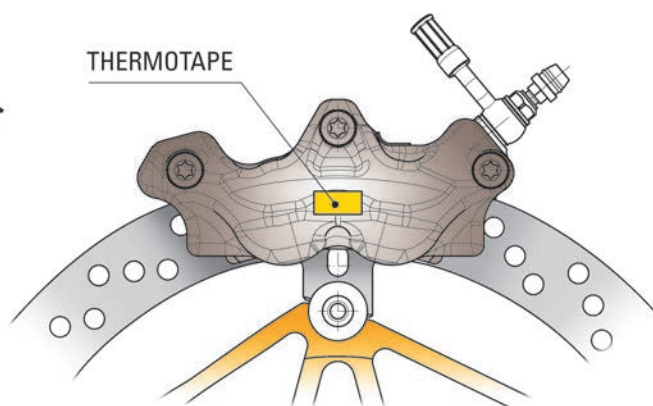

Fig. 3
- Apply thermal tape on the internal half-caliper in order to monitor operating temperatures: these can be supplied by BREMBO under part number R 02.5168.11/12 (for the application area see fig. 3).
- The caliper temperature must not exceed 130°C (verify through the thermotapes of the caliper see fig. 3).